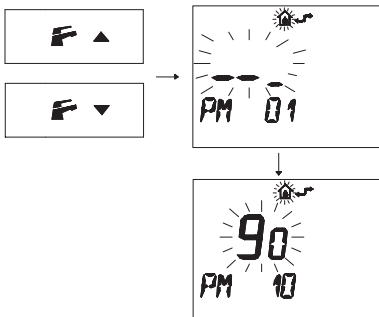

Fig. 7.41
- Press buttons  $\mathbb{F} \blacktriangledown$  or  $\mathbb{F} \blacktriangle$  to display the "PM10" program for selecting the ignition frequency (Fig. 7.41).
In Fig. 7.41 a SET programmed at **90** is displayed corresponding to a re-ignition time of about 3 minutes.